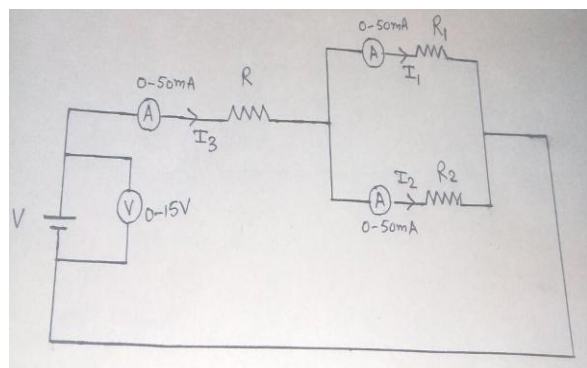

Figure 1
1. Make the circuit diagram as in Figure 1.
CIRCUIT DIAGRAM:**Figure 1****Figure 2****Figure 3****THEORY:**
1. Make the circuit diagram as shown in Figure 1.
For Figure 1